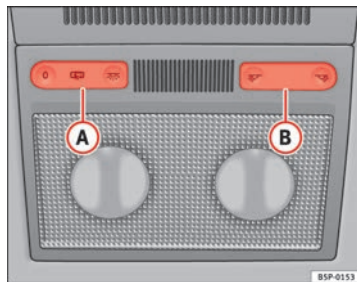
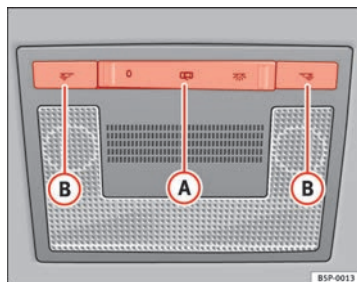

Fig. 78 Interior roof trim: front reading lights, type 1
Fig. 79 Interior roof trim: front reading lights, type 2
Press the corresponding button ⇒ Fig. 78 (B) and ⇒ Fig. 79 (B) to switch on the reading light.